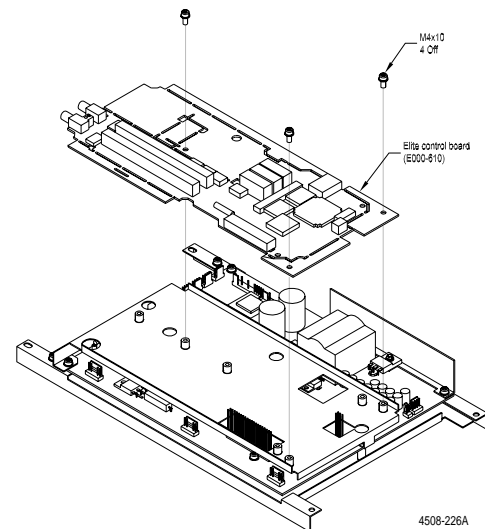

Figure 3.15: Control Board Removal
- 4) The following instructions refer to figure 3.15, **Note** the figure shows the Power tray removed from the Elite for clarity. There are two variations in Control board earthing which affects the location of one screw.
- 5) The Control board is now only held by the 6 pin and 40pin connecting sockets, see figure 3.15. **Lift the board gently and evenly at the connecting socket areas** . When the board is removed place it in a static proof bag or on static safe foam.
- 4) Gently push the 6 pin connector down slightly, and repeat the process with the 40 pin connector. When this is completed, check through the slots to ensure no connecting pins are showing or damaged. Push the Control board completely home and replace the 3 off M4x10 Phillips screws as per figure 3.15.